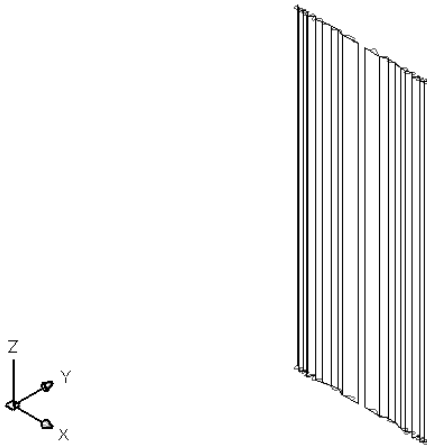

Figure 23-36: The completed drapes.
8. Save your drawing. It should look like Figure 23-36.